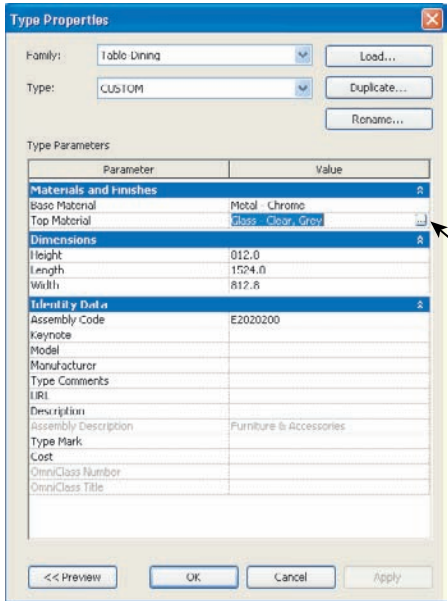

Figure 9.29
7. In the Type Properties dialog box (Figure 9.29), go to the Materials And Finishes section, and click the Browse button for Top Material. This will take you to the Materials dialog box.